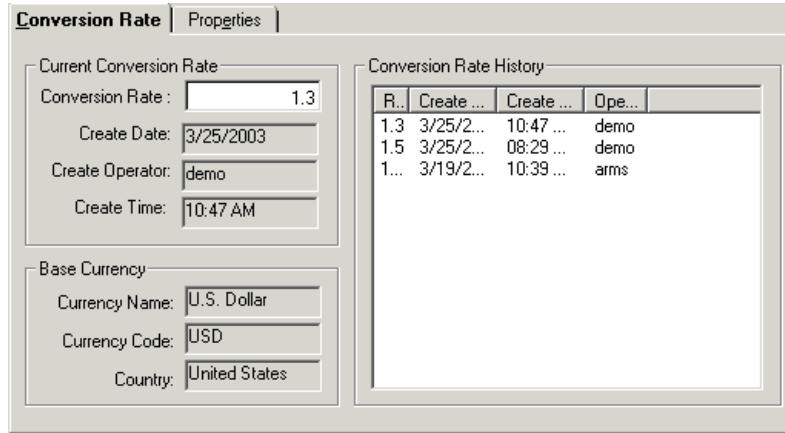

Figure 3-4. Currency Maintenance dialog box - Conversion Rate tab
- Conversion Rate History information (see Figure 3-4)